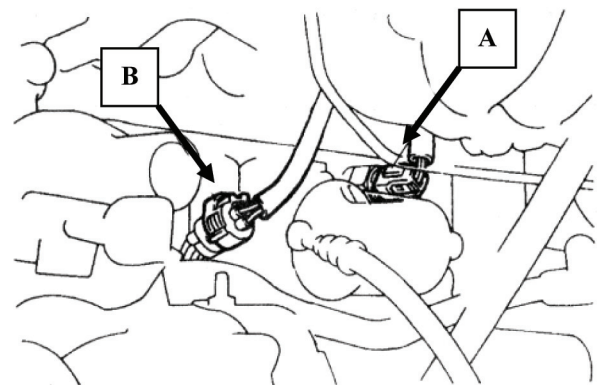

Figure 11
- 29. Disconnect the detonation sensor connector (A), and the crankshaft position sensor connector (B). See Figure 11. Both connectors are located next to the engine block, and below the intake manifold.